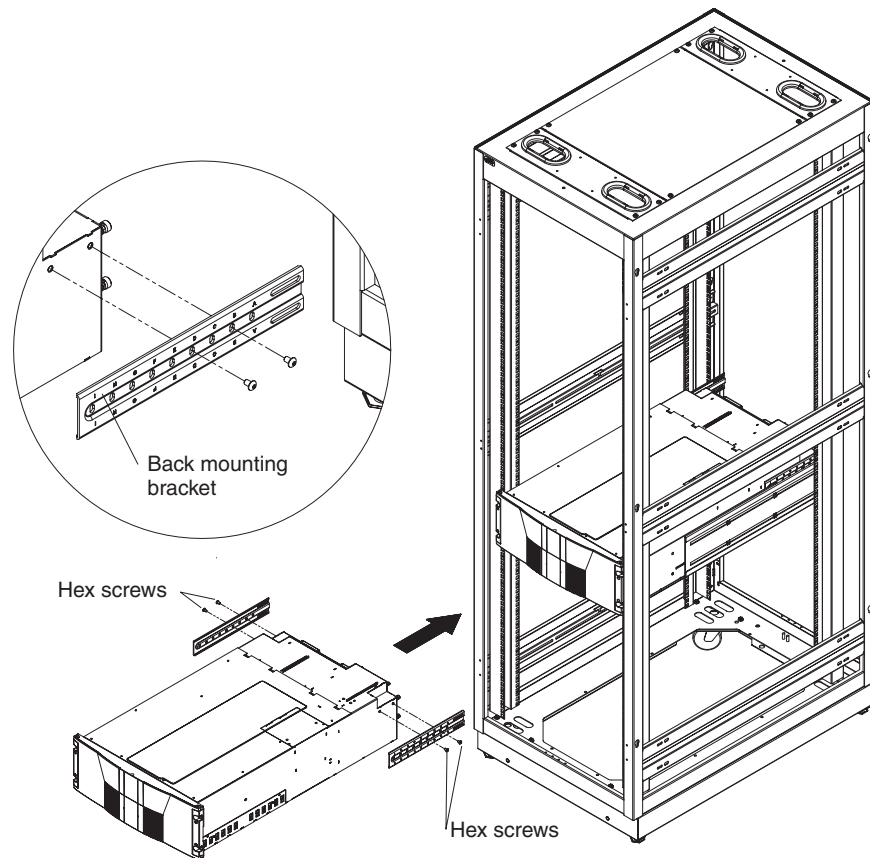

Figure 9. Installing the back mounting brackets
10. Attach a back mounting bracket to each side of the library, using 2 M5 x 8 hex screws as shown in Figure 9.